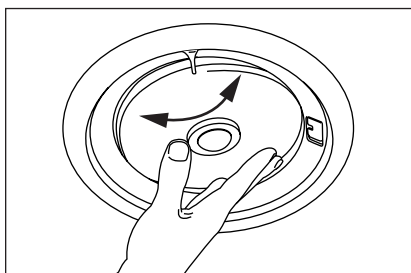

**Figure 18**
8. Holding the speaker in the palm of your hand, insert the speaker into the frame, twist clockwise to lock. **(See Figure 18).**